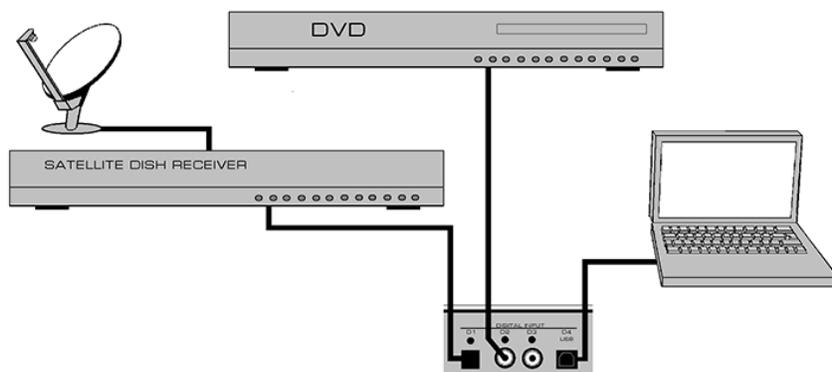

Figure 2: Nëo 340i Optional Digital Inputs – connection examples
There are two (2) different settings available for setting the resistive load; 100Ω and 47kΩ which are represented by jumper sockets R12 for the left channel and jumper socket R29 for the right channel (refer to figure 2 – section labeled "LOADING"). The factory default setting is 47kΩ, therefore both jumpers will be found in each of the two left most sockets.
There are two (2) different settings available for the capacitive load; 0pF and 100pF which are represented by jumper sockets C9 for the left channel and jumper sockets C17 for the right channel (refer to figure 2 – section labeled "LOADING"). The factory default setting is 100pF for a moving magnet cartridge, therefore both jumpers will be found in each of the two right most sockets.
There are two (2) different settings available for gain level. They are 40dB for MM cartridges and 60dB for MC cartridges, which are represented by jumper socket J18 for the left channel and jumper socket J24 for the right channel (refer to figure 2 – section labeled "GAIN"). The factory default setting is for a MM cartridge, therefore both jumpers will be found in each of the two right most sockets labeled MM; ***It is highly recommended that you do not use the jumpers labeled MC for an MM cartridge as this will overload the 340i.*** When using a MC cartridge, you should insert the supplied jumpers into each of the two left-most sockets labeled MC.
The rear panel will look similar to Figure 2 (above). There are four (4) pairs of single-ended analog inputs on RCA connectors labeled CD, A1, A2 and A3/P. The RCA input and output connectors on the rear panel have been color coded: ‘white’ for the left channel and ‘red’ for the right channel. If your **Nêo 340i** is equipped with the *optional phono section*, the input labeled ‘A3/P’ must be used to connect your turntable interconnect leads to this integrated amplifier. If you don’t have the optional phono section installed, then this input can be used in the same way as the CD, A1 and A2 inputs.